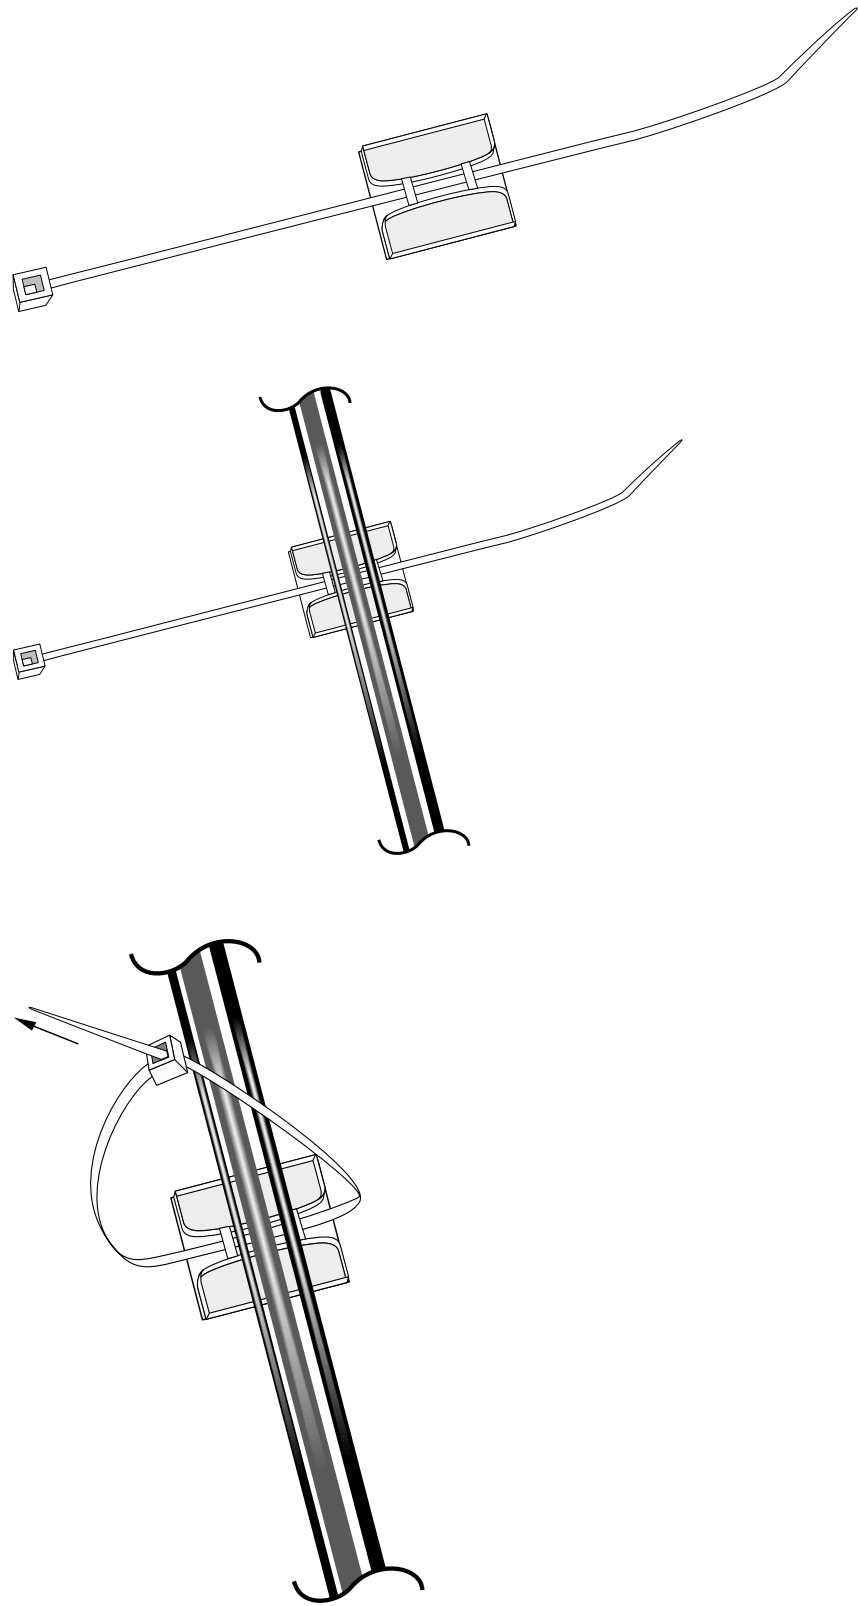

FIGURE 3-2. Securing cables to the cable tie tabs
6. Secure sensor and peripheral leads to the side of the enclosure using 8" cable ties and cable tie tabs (see FIGURE 3-2).
5. Secure sensor and peripheral leads to the side of the enclosure using 8" cable ties and cable tie tabs (see FIGURE 3-2).